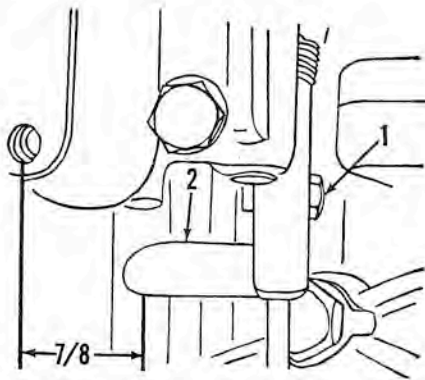

Fig. M86—Reverse pickup finger adjustment used on some models. Refer to text.
On Merc 600 and 700, make sure that throttle valves are closed; then loosen clamp screw (1—Fig. M86) and position reverse pickup finger (2) so that leading edge is approximately 7/8-inch in front of carburetor float bowl as shown. Loosen the screws attaching the reverse pickup stop to